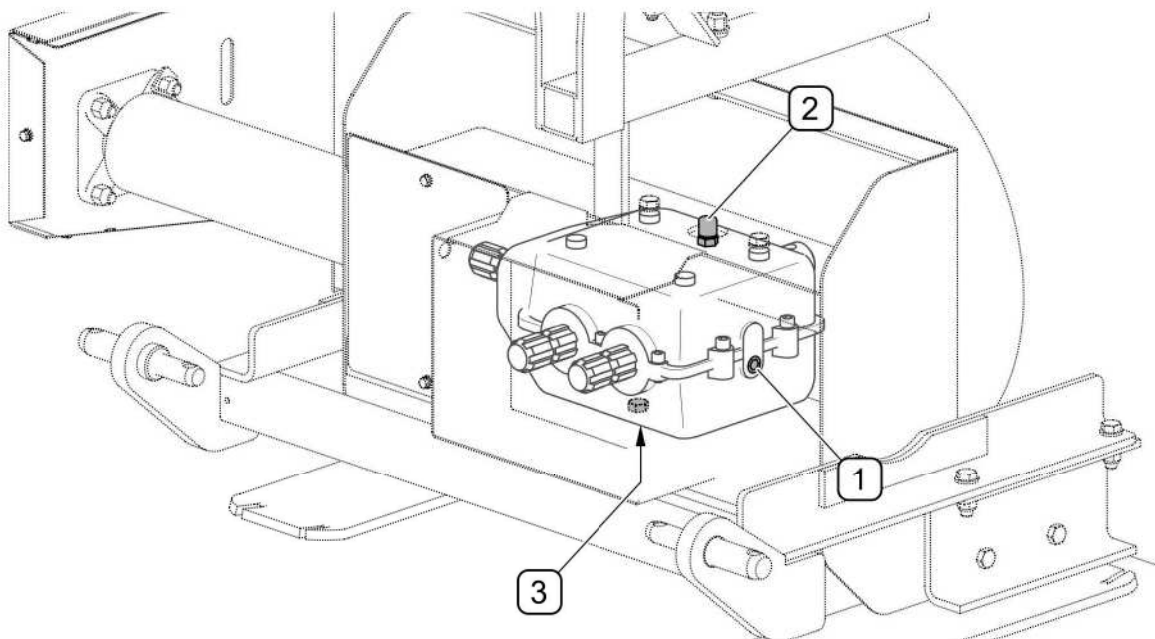

FIG. 5.1 Checking and change of oil in intersecting axis gear
- unscrew inspection plug (1) (FIG. 5.1),
- oil level should reach the lower edge of the plug opening (1),
- if necessary, add oil through the inlet plug (2)
It is best to change oil immediately after completing work when transmission gear is still hot and impurities are suspended in oil. Before changing oil in the intersecting axis gear (FIG. 5.1):